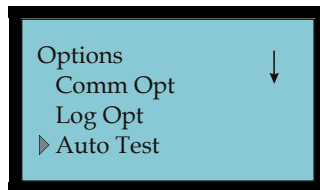

Figure 4-2 Options Menu with Auto Test Selected
2. Press **OK** to display the Options menu and select Auto Test (see **Figure 4-2**).